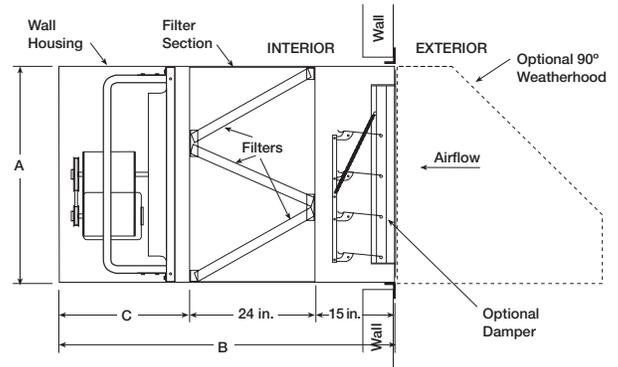

Figure 4 - Filtered Supply Wall Housing Installation
**Figure 4** shows the dimensions and wall opening required for installations with a filtered supply wall housing.